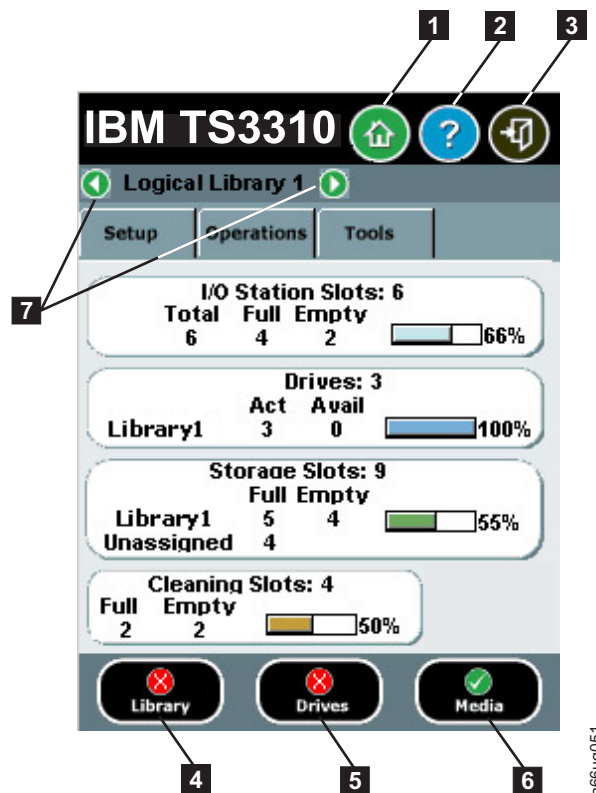

Figure 6-2. Operator Panel common header elements and subsystem status buttons
- **Home** (1 in Figure 6-2) - displays the default **Capacity View** screen.
- **Help** (2 in Figure 6-2) - context-sensitive help for the associated page
- **Logout** (**3** in Figure 6-2 on page 6-2) - ability to log out
- **Library** (**4** in Figure 6-2 on page 6-2)- opens the operator interventions for the library.
- **Drives** (**5** in Figure 6-2 on page 6-2)- opens the operator intervention screen for drives.
- **Media** (**6** in Figure 6-2 on page 6-2)- opens the operator intervention screen for media.